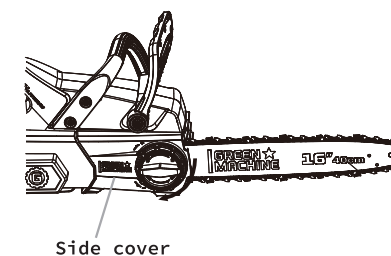

Fig. 14B
5. Place and secure the side cover over the gear ( Fig. 14B).
6. Rotate the bar adjusting locking knob clockwise until it stops ( Fig.14B).